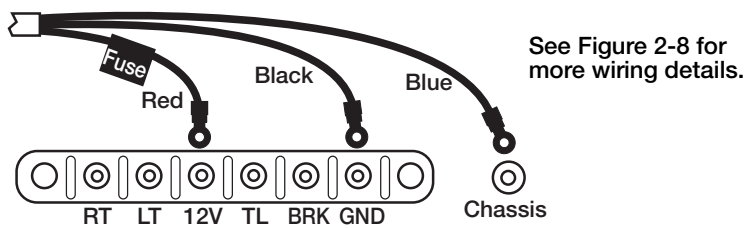

*Figure 2-7. Weighcenter Battery Connections*
2. Connect the power wires as shown in Figure 2-7.